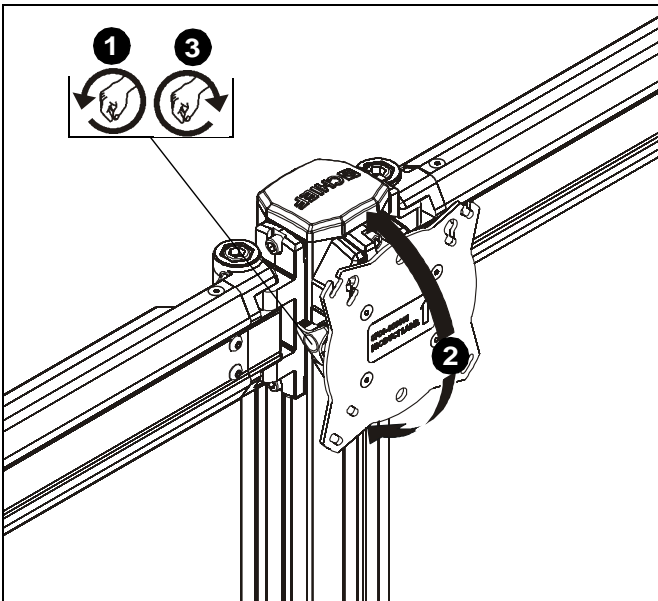

Figure 18
1. Loosen knob on side of center faceplate assembly. (See Figure 18)
2. Adjust pitch as desired. (See Figure 18)
3. Tighten knob to secure desired pitch position. (See Figure 18)